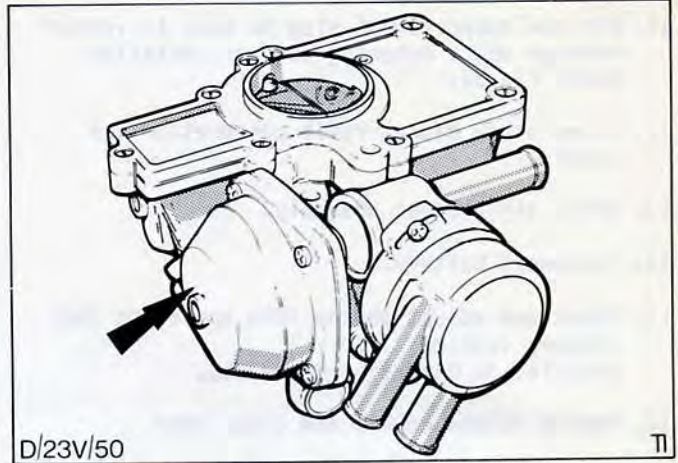

Fig.66. Diaphragm housing.
5. Remove four cross head screws and detach diaphragm housing, Fig.66.